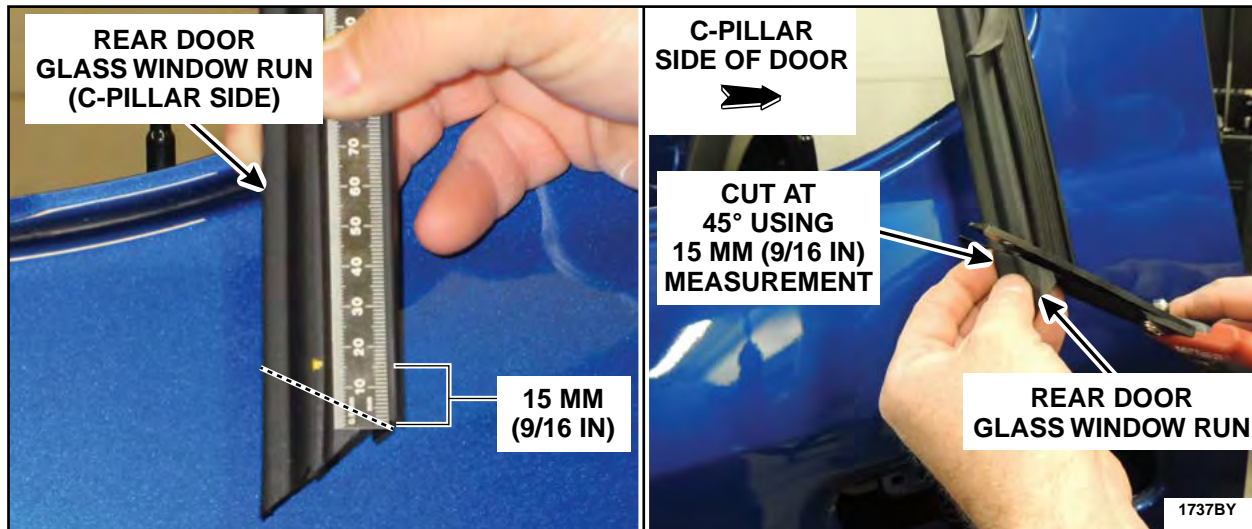

FIGURE 68
10. Modify the rear door glass top run. See Figure 68.